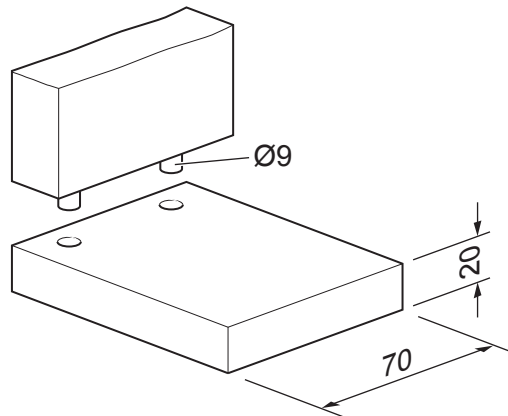

Fig. 7.1
- 7 Fig. 7.1 shows two pieces of hardwood that will be joined by means of a dowel joint.